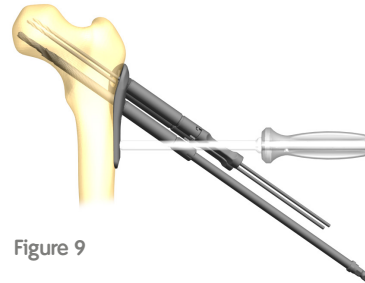

Figure 9
8. Remove the calcar 2.8mm Guide Pin Insert from the Proximal Locking Screw Drill Guide. Drill over the 2.8mm Guide Pin with the Proximal Drill (7117-9208) (Figure 9).